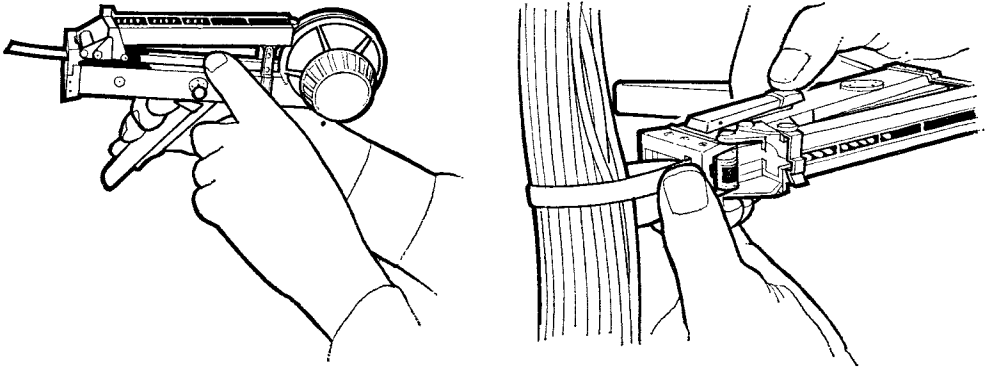

Fig 37
b. Push out a length of strapping through the closure in the tool head (Fig 37). Pass the strapping round the wires and feed about 1 inch back through the closure in the tool head. Press the lever on the right-hand side of the tool to grip the free end of the strap in position.